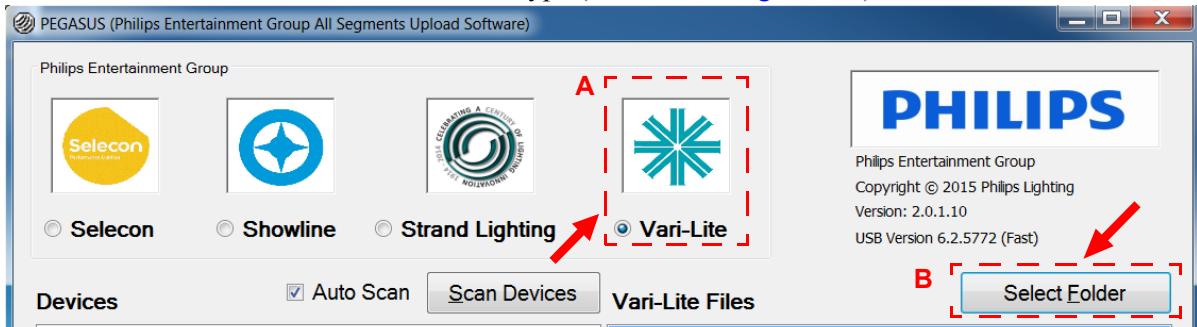

Figure 3-4: PEGASUS Software Selection Screen
a. Select Vari-Lite for luminaire type (as shown in Figure 3-4.).
b. As indicated in Figure 3-4, click on Select Folder button to open browser window.